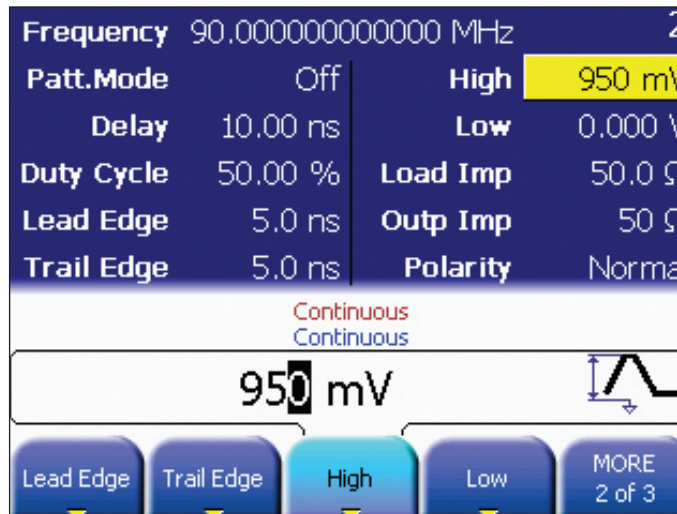

Figure 7. Step 4.
**STEP 4.** Set channel 2, as shown in Figure 7.